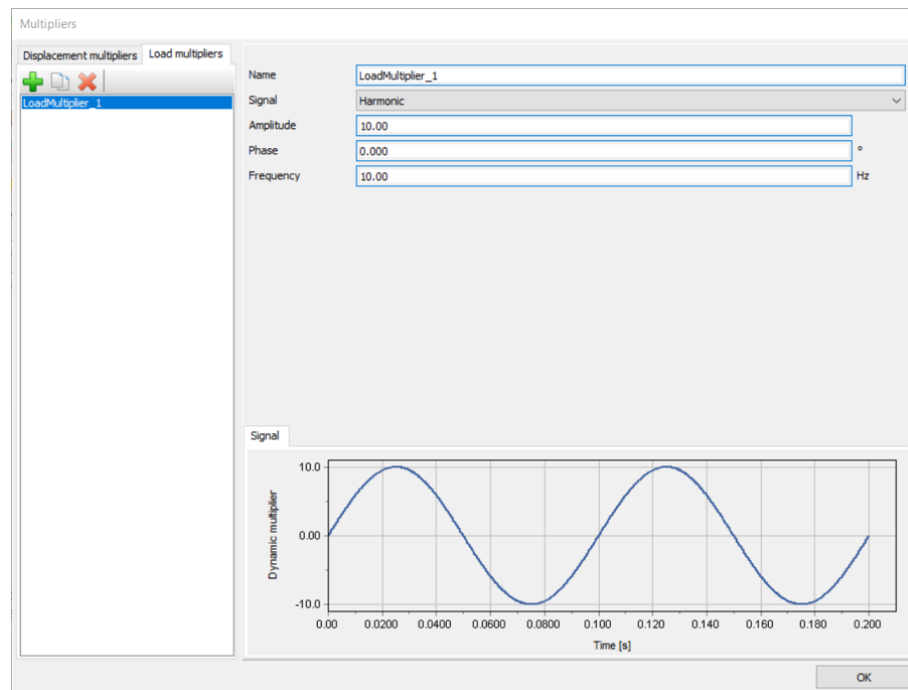

Figure 194: Definition of a **Harmonic** multiplier
9. Define a **Harmonic** signal with an **Amplitude** of 10, a **Phase** of 0° and a **Frequency** of 10 Hz and as shown in Figure 194 (on page 219):